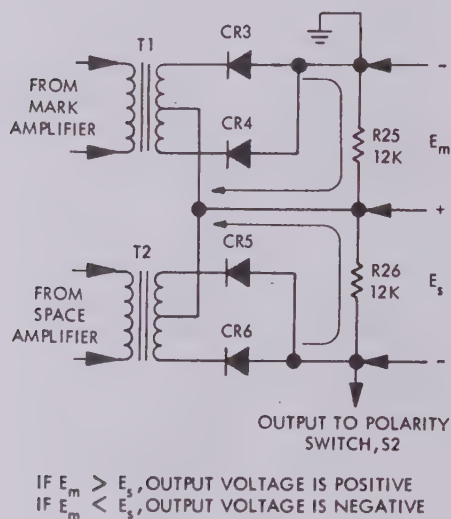

Figure 4-4. Discriminator Detector, Simplified Diagram
(5) DETECTOR. - The detector rectifies and combines the outputs of the discriminator transformers into a pulsating dc which contains the mark-space intelligence. The mark signal at the secondary of T1 is full-wave rectified by CR3 and CR4, and the space signal at the secondary of T2 is full-wave rectified by CR5 and CR6. The rectified mark and space signals are next combined across R25 and R26 (see figure 4-4). The dc signal from the detector is applied to the POLARITY switch, S2.